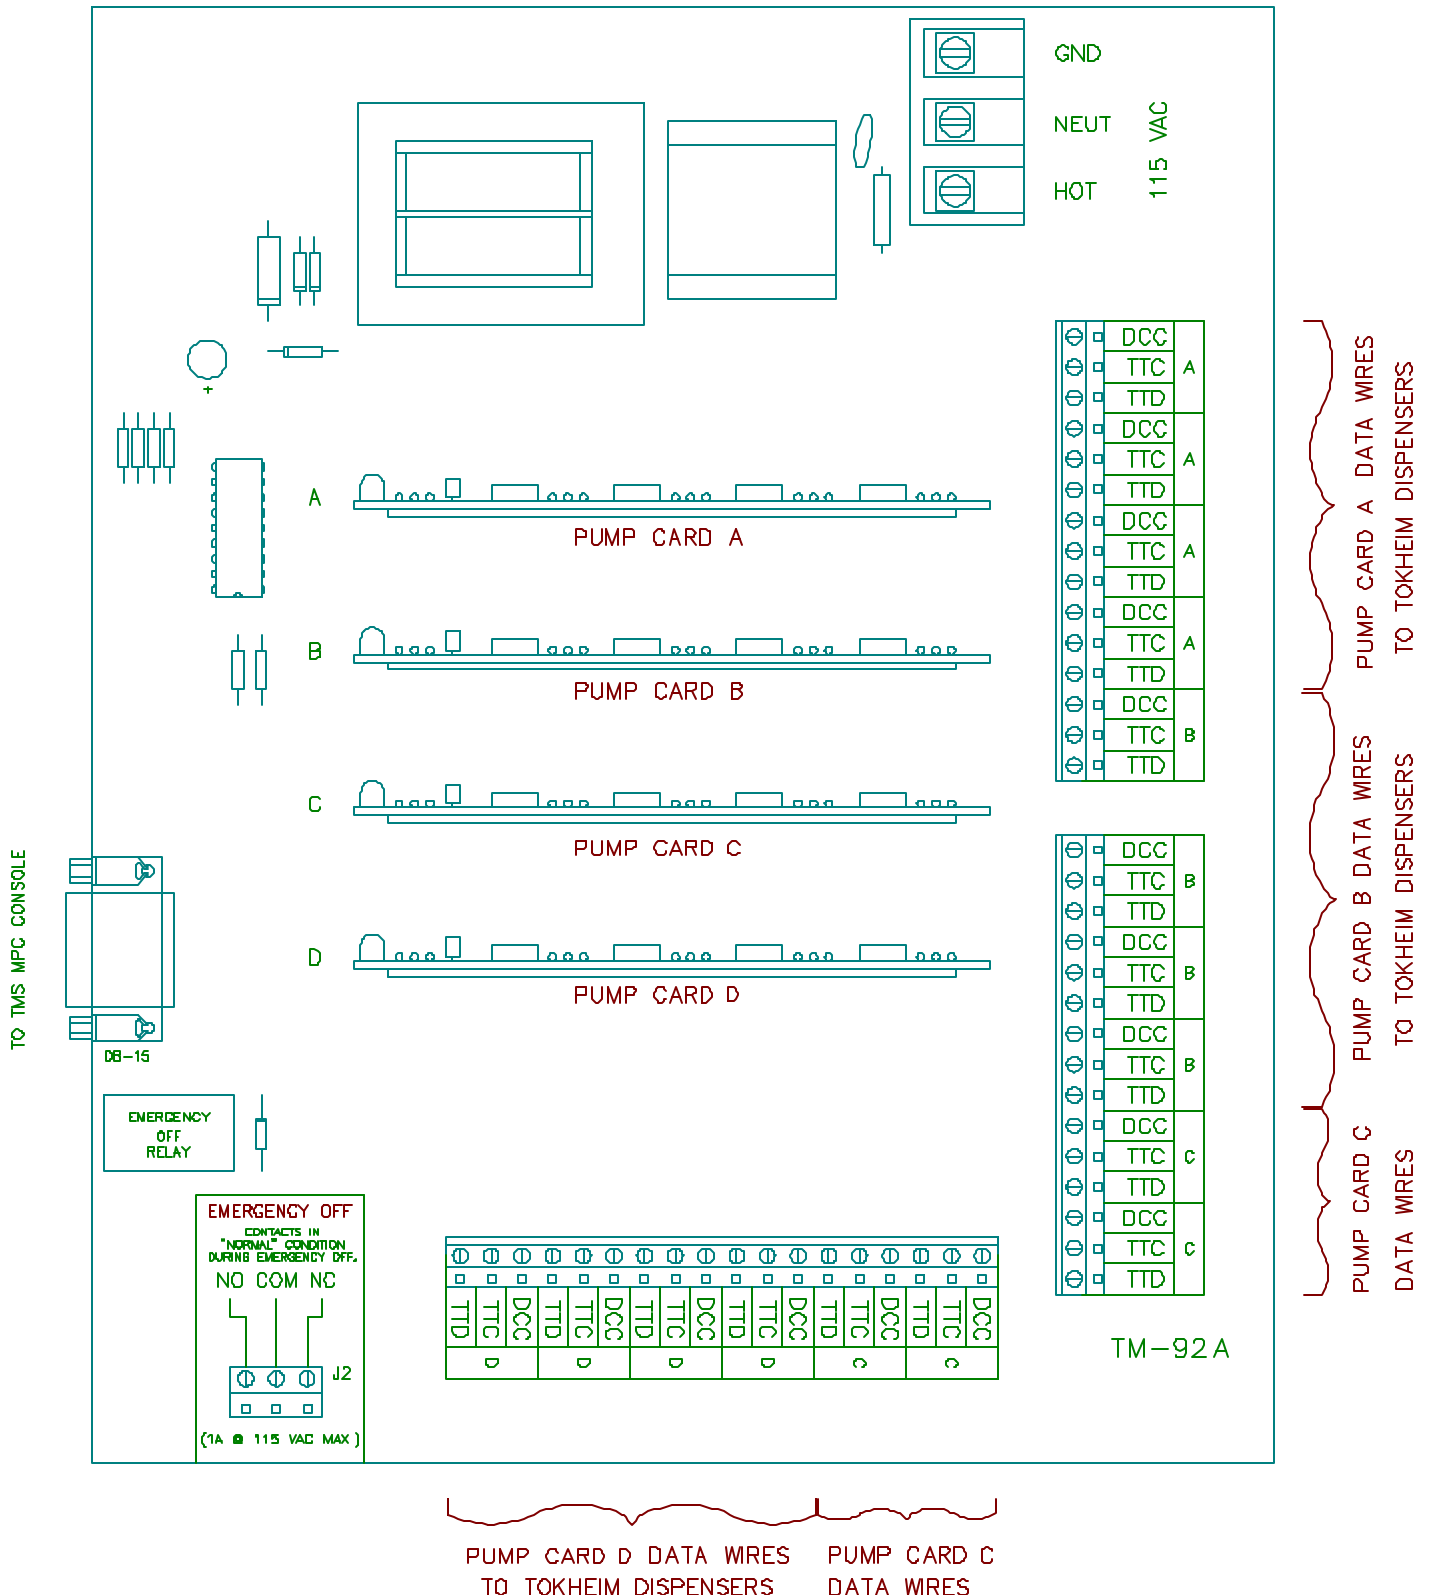

Figure 2 Wiring Diagram for TMS MPC Systems Controlling Tokheim Electronics
MPC-TM93: These pump cards control Tokheim 262A, TCS, TCSA, and Premier (up to four grades per fueling position), including blend style, pumps/dispensers. MPC-TM93 pump cards (4 max.) are plugged into the MPC-TM92 communication board in the sockets provided as shown in Fig. 2. Each MPC-TM93 allows connection of up to four pumps/dispensers.
2. Connect the Tokheim pump/dispenser data wires to the MPC-TM92 communication board terminal strips in the TMS MPC for TOKHEIM IC box shown in fig. 2 on page 4.
14. Figure 2 on page 4 shows the Emergency Off connector located in the TMS MPC for TOKHEIM IC Box. The EMERGENCY OFF spdt relay is for pilot duty only (max. 1A @ 115VAC). The connector provides a dry contact relay closure across COM and NO when the console is ON and the "EMER OFF" switch has not been activated (EMER OFF light not blinking). The relay is in its normal (de-energised) state and breaks this connection whenever: